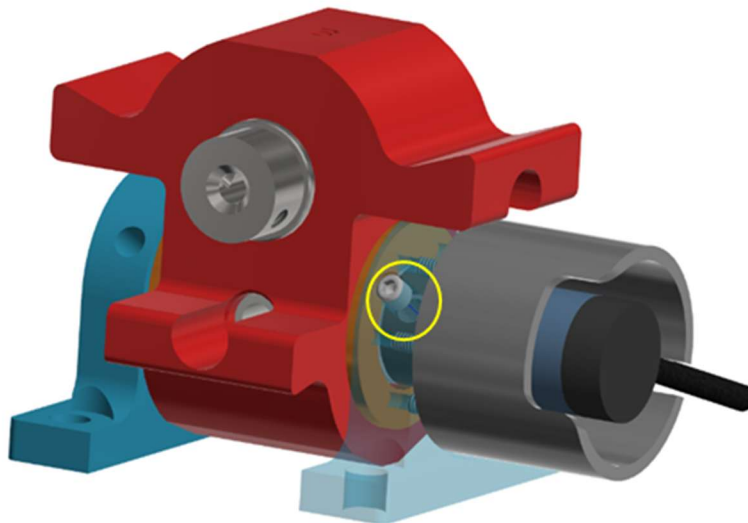

Figure 10-30. Loosen the M3 X 0.5 X 3 LG. SSSNP on the Y-Axis Potentiometer
10.2.26 Loosen the M3 X 0.5 X 3 LG. SSSNP on the Y-Axis Potentiometer (Figure 10-30).